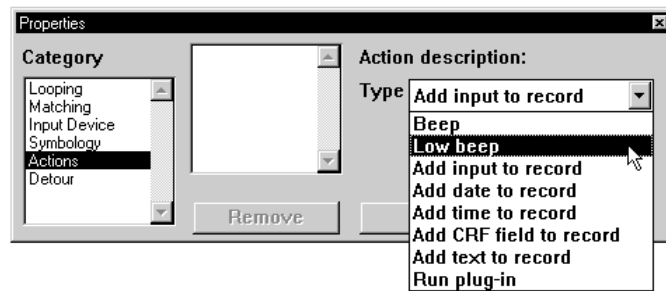

Figure 4-20 Choose Low Beep Action from Menu
22. Choose **Low beep** from the **Action description** pop-up menu (Figure 4-20).